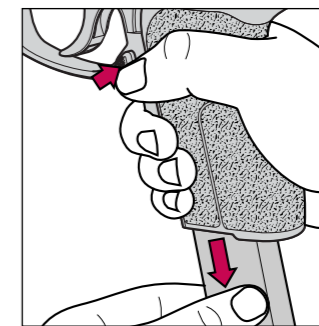

Fig. 2
3. Actuate magazine catch **24** and remove the magazine (Fig. 2).
2. Actuate magazine catch **24** and remove the magazine (see Fig. 2, page 9).